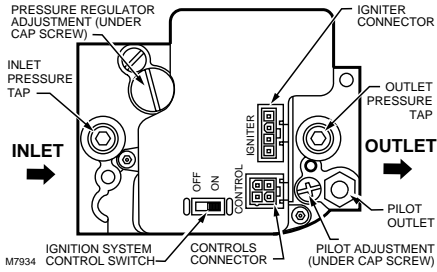

Fig. 6. Top view of ignition system control.
Follow the instructions below to installing the piping, and control. Connect the pilot tubing and wiring. Make sure the leak test you perform on the control after completing the installation includes the adapters and screws. If you use a wrench on the valve after the flanges are installed, use the wrench only on the flange, not on the control. See Fig. 6.
3. Unscrew the brass compression fitting from the pilot outlet as shown in Fig. 6.